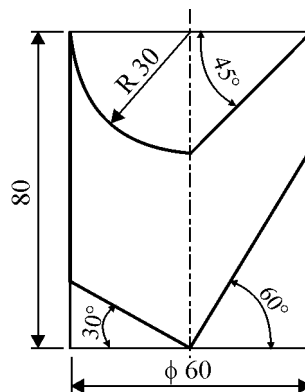

Fig. No. 3
- (ii) Draw the development of the lateral surface of the cylinder shown in Fig. No. 3.